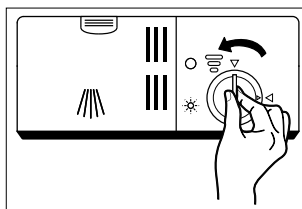

Fig. 9
- ▶ Twist the lid of the rinse aid container (6) anticlockwise to the left arrow and remove the lid (see **Fig. 9**).